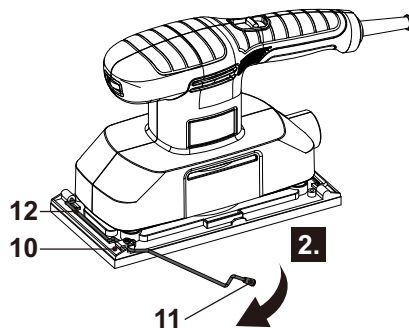

Fig. 4
- > Press the clamp lever (11) downwards along the base plate (10) to open the clamp bar (12) (Fig. 4, step 2).